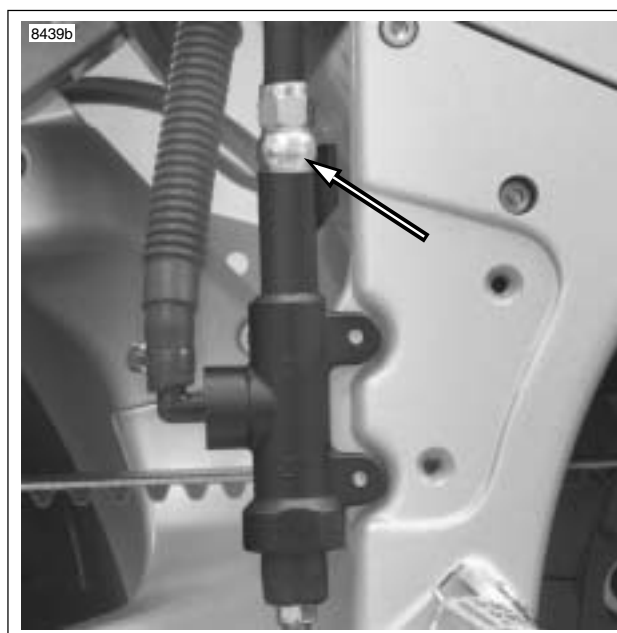

Figure 2-56. Rear Brake Line Switch/Banjo Bolt
8. See Figure 2-56. Remove brake line switch/banjo bolt from rear master cylinder. Discard copper washer.
1. See Figure 2-56. Install brake line switch/banjo bolt with **new** copper washers to the master cylinder. Tighten to 16-20 ft-lbs (22-27 Nm).